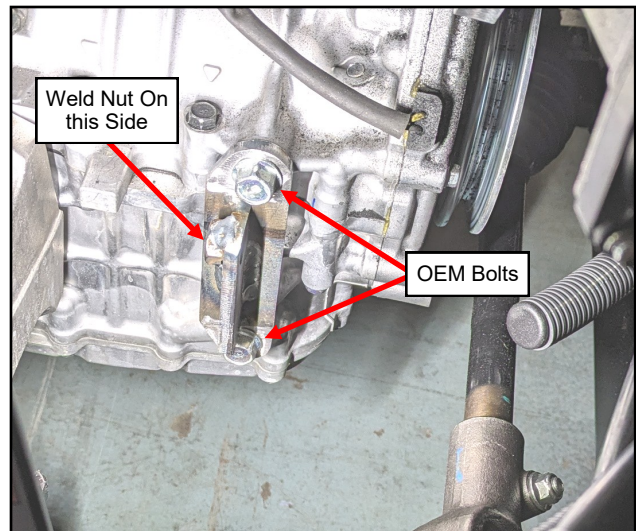

Fig. 3.2 (Install Lower Alternator Mount)
- 3.2 Reusing OEM bolts, install Lower Alternator Mounting Weldment onto engine block per figure 3.2. Torque factory M8 bolts to 22-31 ft-lb (30-42 Nm).